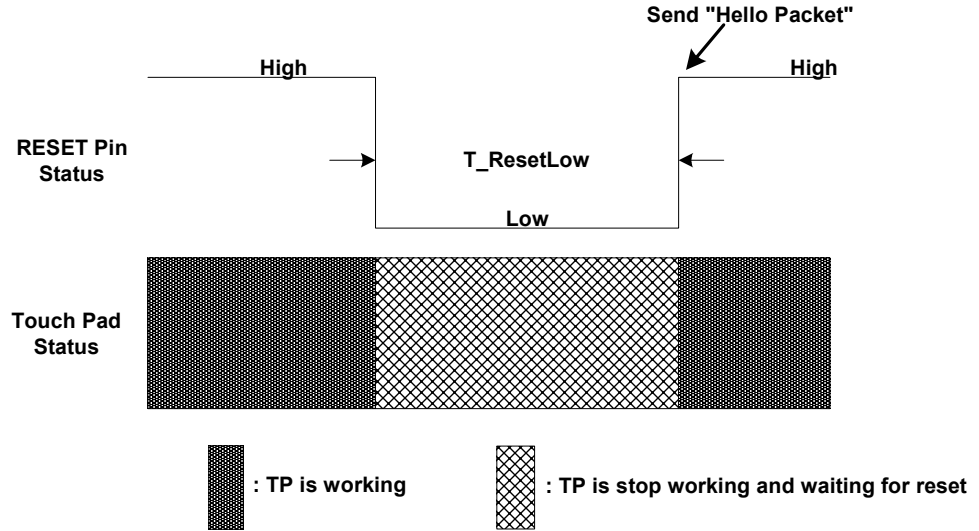

Fig. 7-3 Reset Timing from normal operating to reset happened
- C. **RESET:** Fig 7-3 below shows eKT8150 reset timing from normal operating to reset happened.